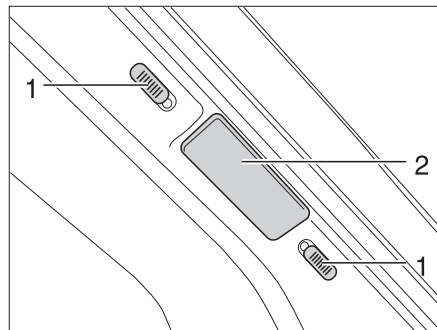

Fig. 16 Lock for the Roman shade of the windscreen
- Use the handle (Fig. 16,2) to pull the two halves of the Roman shade for the windscreen outwards as far as they will go.
- Push the locking knobs (Fig. 16,1) upward or downward.